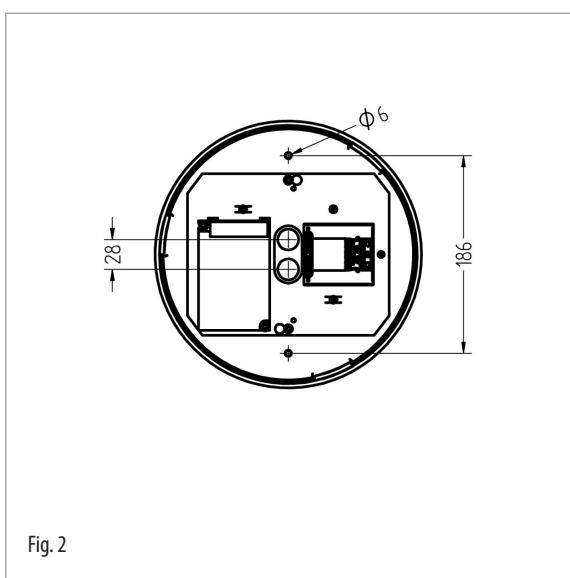

Fig. 2
2. Fasten the housing onto the ceiling in the two holes shown in figure 2.